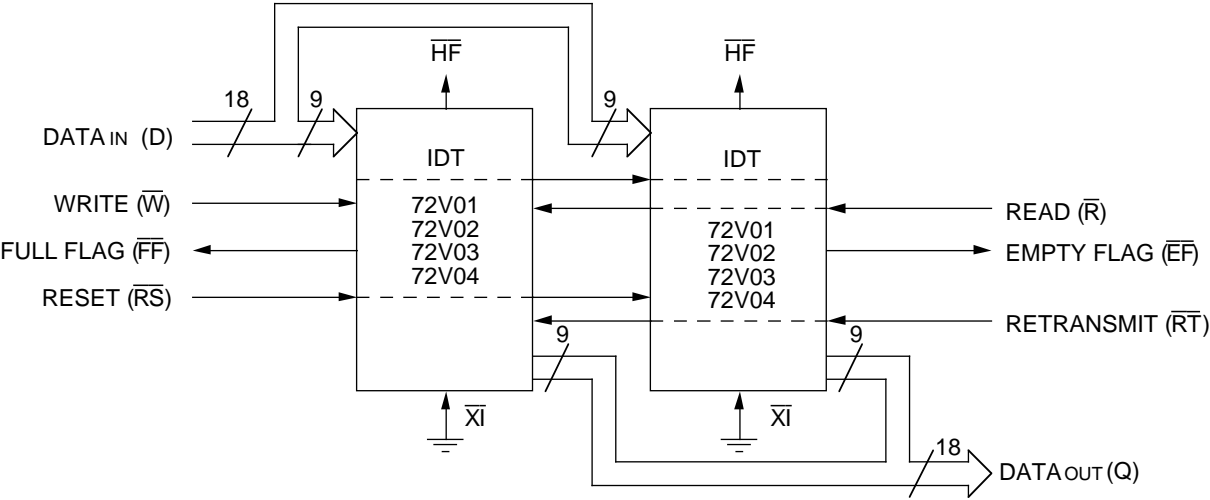

Figure 13. Block Diagram of 1024 x 18 FIFO Memory Used in Width Expansion Mode
Figure 13 demonstrates an 18-bit word width by using two IDT72V01/72V02/72V03/72V04s. Any word width can be attained by adding additional IDT72V01/72V02/72V03/72V04s (Figure 13).
2. For Flag detection see section on Width Expansion and Figure 13.